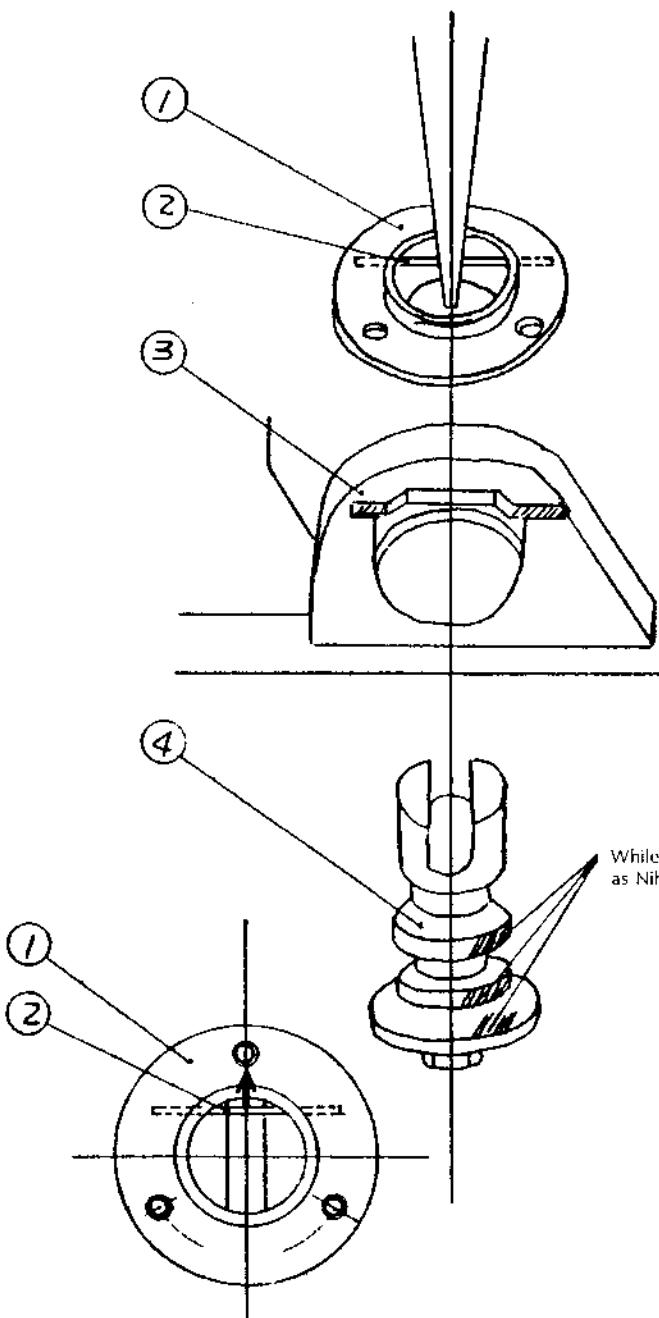

Fig. 1
2 To install the rewind shaft (4), as shown in Fig. 1, adjust the slit of the rewind shaft and the rewind shaft holder to be nearly at right angles to each other, rewind the rewind shaft holder from the slitting of the rewind shaft in the direction of the arrow mark, push until it is hidden by the rewind bearing, then push up the rewind shaft.